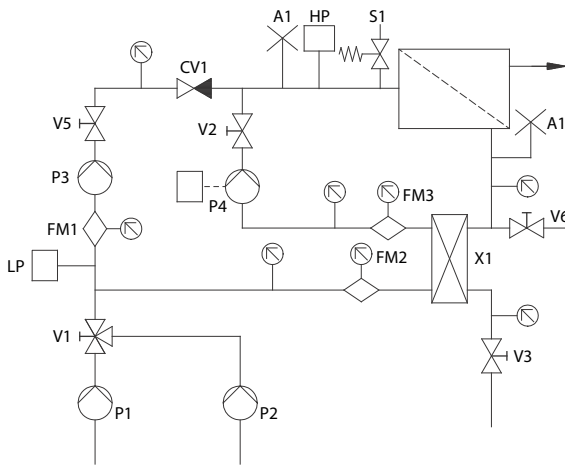

Fig. 16 Example of piping and instrumentation
- Pipework according to the diagram, fig. 16.
This section and the subsequent subsections make references to the piping and instrumentation diagram, fig. 16.